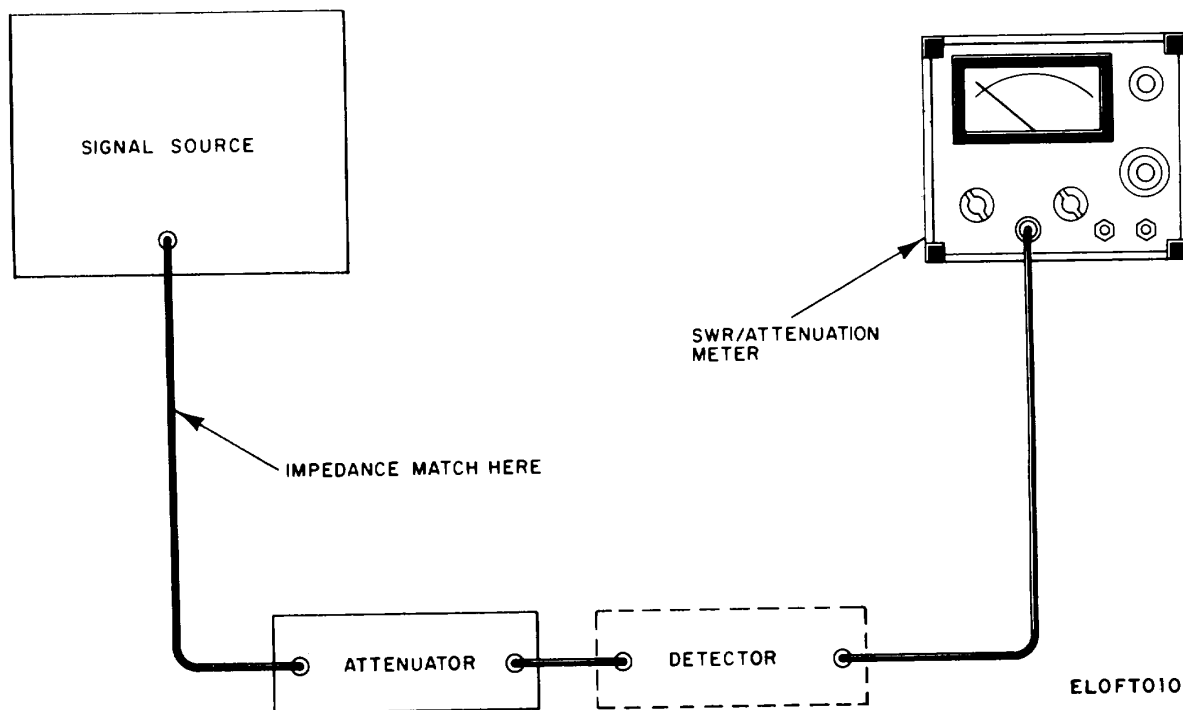

Figure 3-7. Test setup for making attenuation measurements.
(1) Connect equipment as indicated in figure 3-7 and energize all equipment. Allow sufficient time for the equipment to warm up and stabilize.